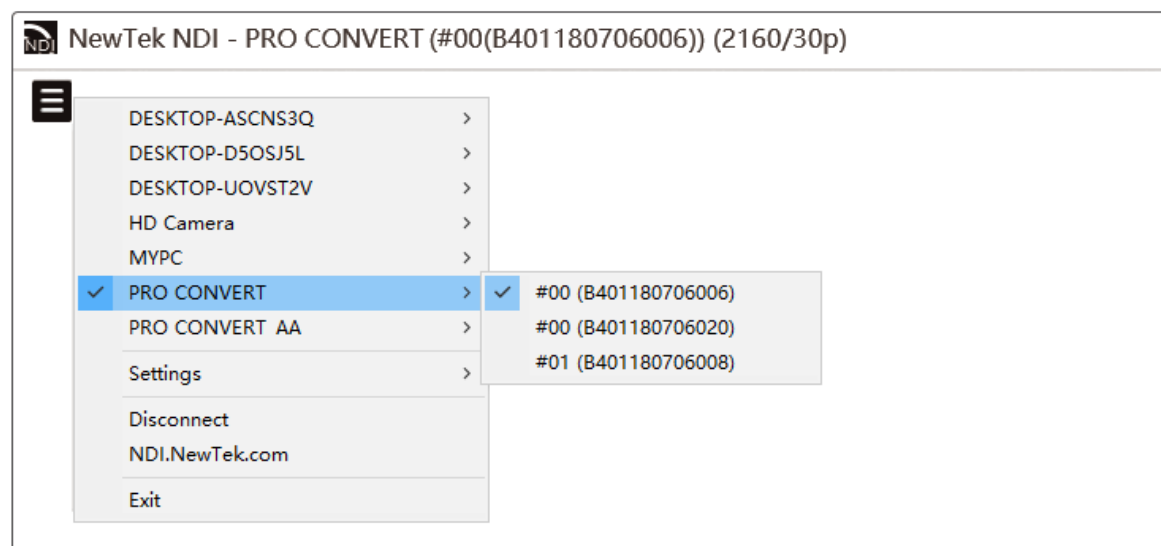

Figure1. Select NDI stream in NDI Studio Monitor
- Step 1** Connect your converter via Ethernet and power it up as shown in the Figure1. Connections.